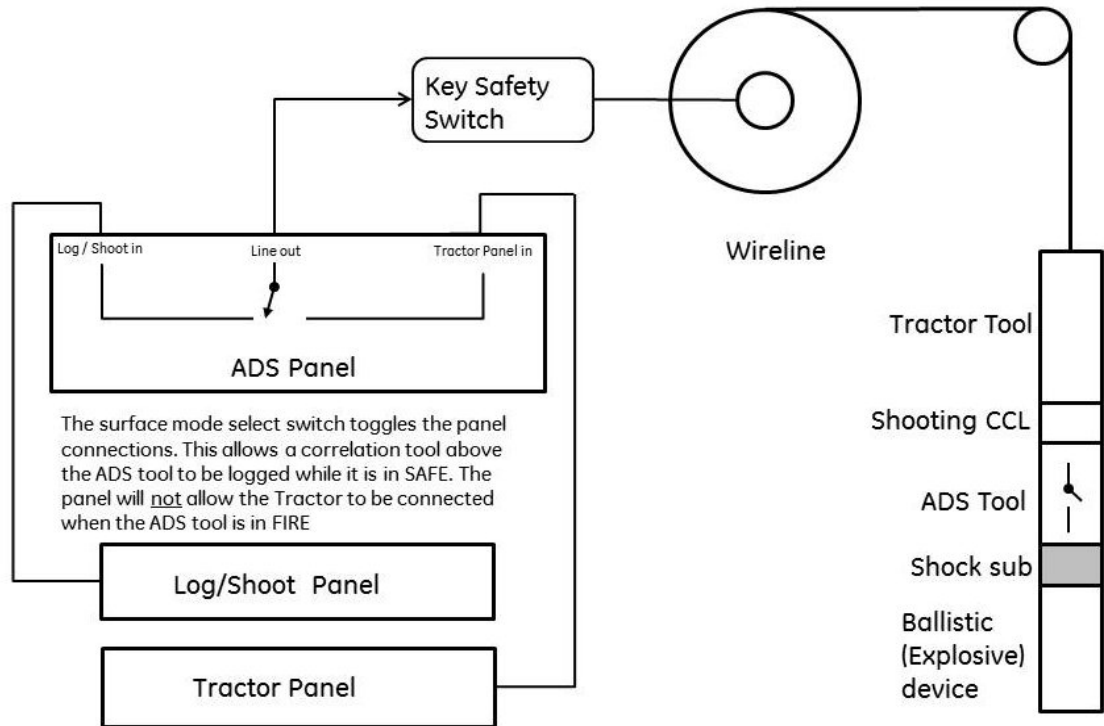

Figure 4-2 Typical Connection with the Tractor and Shooting Panels
- 4 Reconnect the ADS003 to the system as shown in Figure 4-2 and motor the tool to the **FIRE (Closed)** position.
The tool should be positioned in the string just above the tool(s) which require electrical isolation, e.g. between a well tractor and perforating guns. A Shock Sub should always be deployed between the ADS tool and the Ballistic (Explosive) Device, as shown in Figure 4-2. For details about the recommended Shock Sub, refer to Appendix A.2, Ancillary Equipment.
The specific details of the connection of the ADSP to the surface logging system will depend upon the application and the type of equipment elsewhere in the system. For the purposes of the description, a basic scenario consisting of a tractor panel, a shooting panel and the ADSP and its connections are shown below in Figure 4-2.